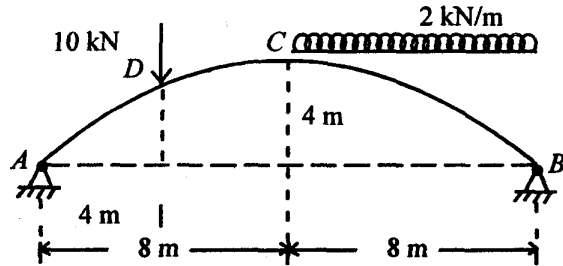

Fig. 2
2. (a) For a two hinged parabolic arch (Fig. 2), moment of inertia of the section varies as secant of the slope. Determine (i) reactions at the supports; (ii) normal thrust and radial shear at section D; and (iii) bending moment at C. 10